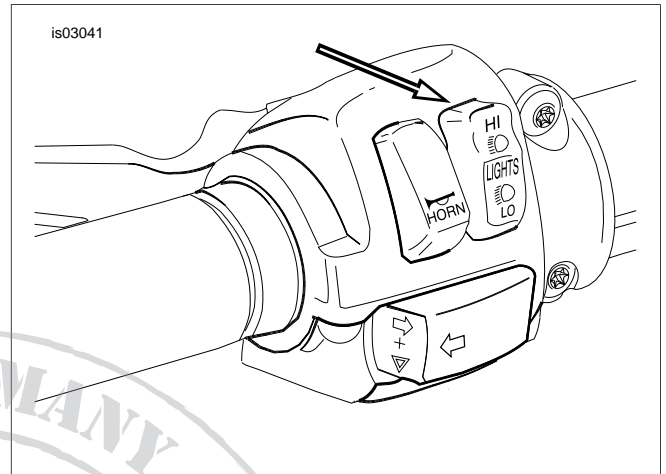

Figure 5. Headlamp Switch
6. See Figure 5. Turn ignition switch ON. Set handlebar headlamp switch to HI beam position.